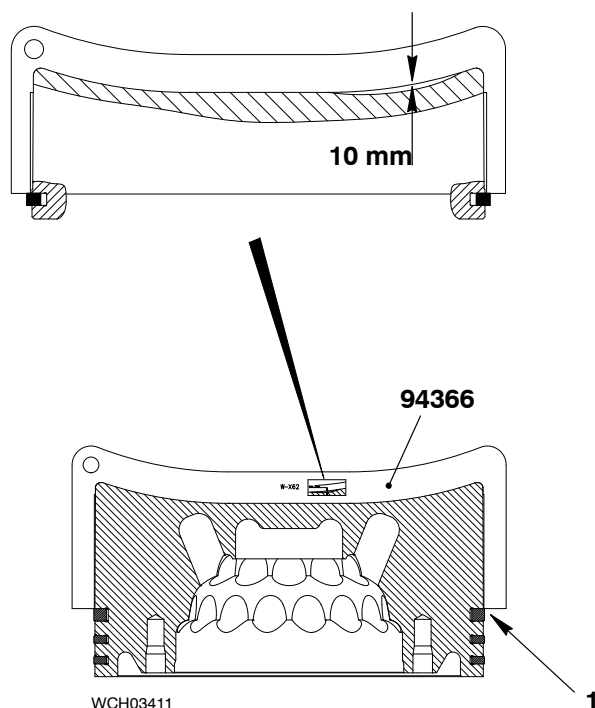

Fig. 1
- 1) Put the template (94366, Fig. 1) in position on the top piston ring (1).